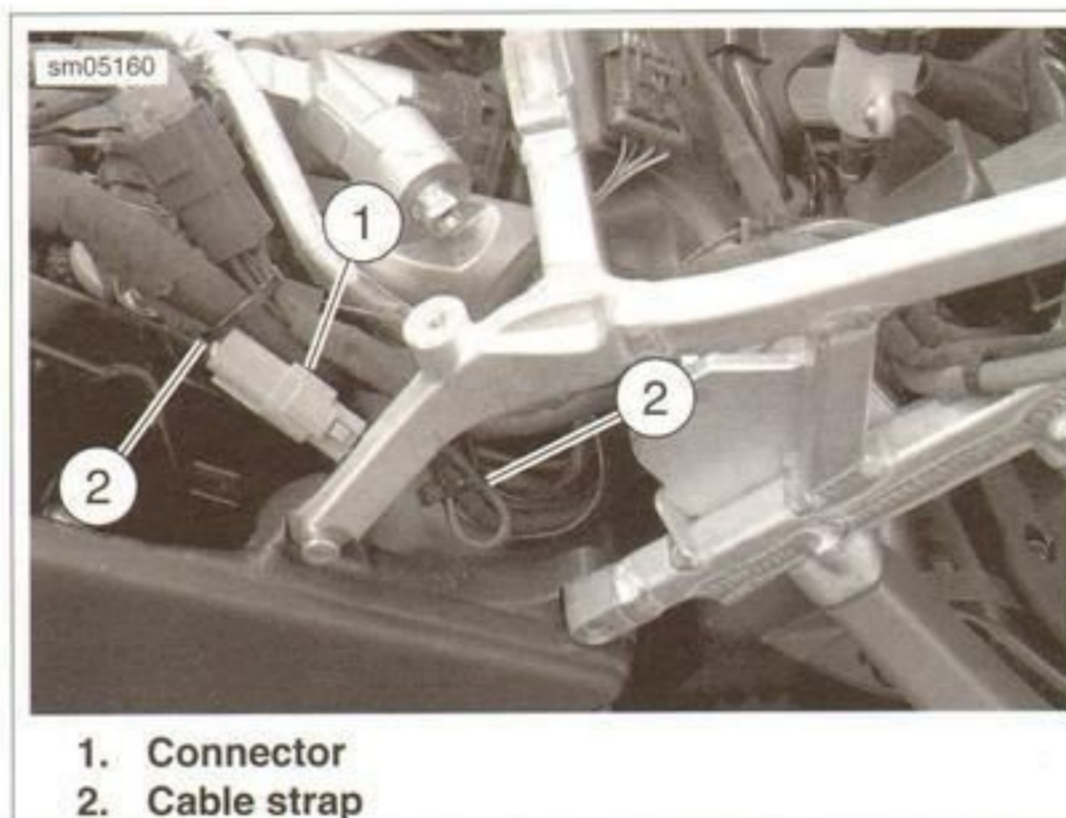

Figure 7-95. VSS Connector
6. See Figure 7-95. Disconnect 3-place Deutsch connector [20] (1) located under rider seat. Note location of cable straps (2) retaining the VSS cable and cut cable straps.
3. See Figure 7-95. Connect VSS connector [20] (1) to wiring harness.